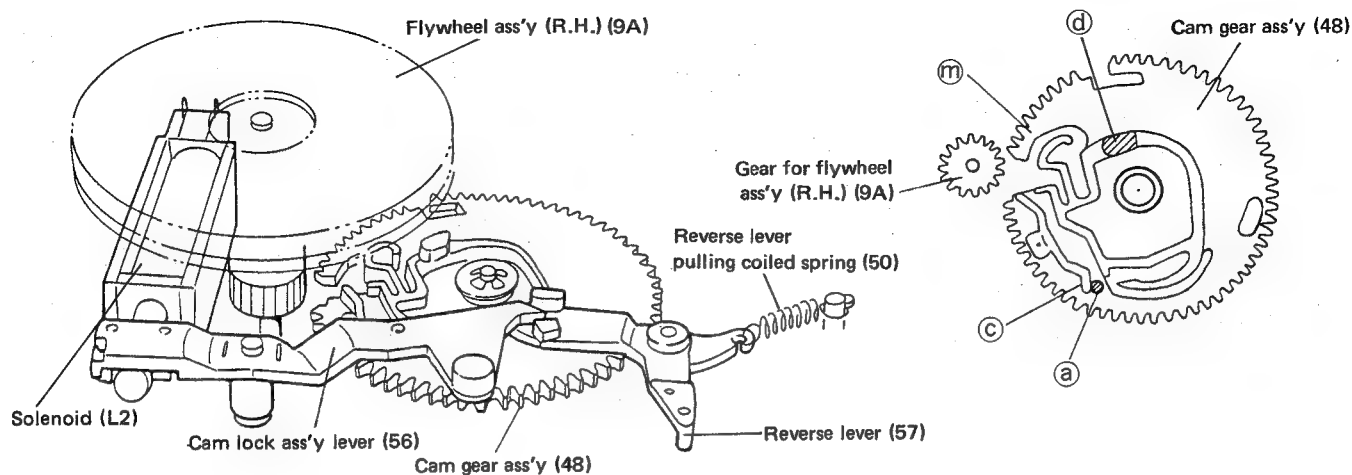

Fig. 18
- 9) As the cam gear ass'y (48) rotates further, its wall (c) is brought into contact with the boss (a) on the cam lock ass'y lever (56). The notch (near (m)) in the gear of the cam gear ass'y (48) approaches the gear of the R.H. flywheel ass'y (9A) until the rotation of the R.H. flywheel ass'y (9A) ceases to be transmitted to the cam gear ass'y (48). Thus, the cam gear ass'y (48) stops rotating. (See Fig. 18).
- 15) As the cam gear ass'y (48) rotates further, its wall (c) is forced against the boss (a) of the cam lock ass'y lever (56). The notch (near (m)) in the gear of the cam gear ass'y (48) is moved to the position of the gear of the R.H. flywheel ass'y (9A) and the rotation of the R.H. flywheel ass'y (9A) ceases to be transmitted to the cam gear ass'y (48). As a result, the cam gear ass'y (48) stops rotating. (See Fig. 18.)